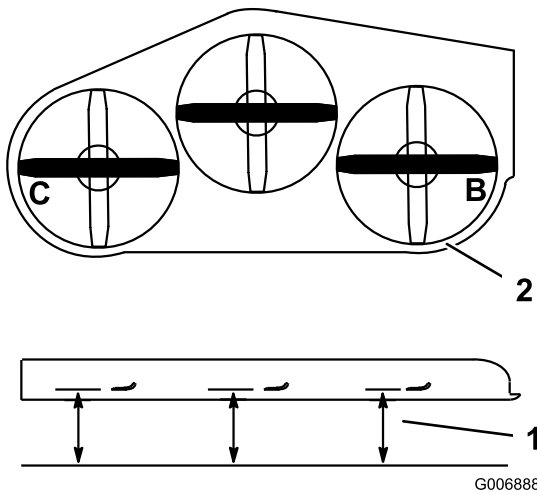

Figure 97
1. Position the **right** blade side-to-side (Figure 97).
3. Measure the right blade at the **B** location, from a level surface to the cutting edge of the blade tip (Figure 97).
5. Position the left blade side-to-side (Figure 97).
6. Measure the left blade at the **C** location (Figure 97), from a level surface to the cutting edge of the blade tip.